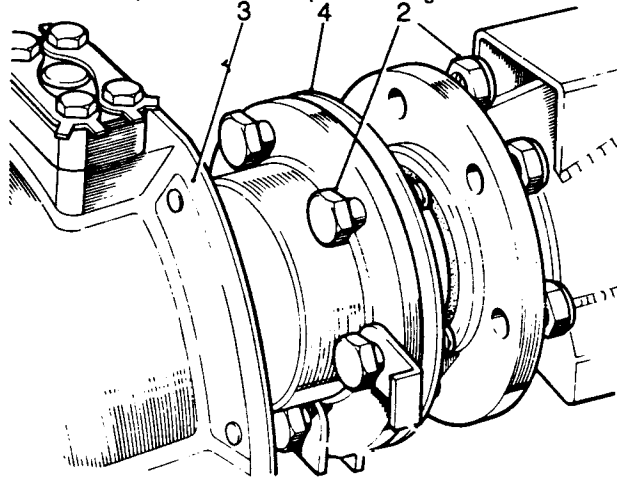

Fig J1.37
(1) Refer to Fig J1.37. Grease and replace the joint washer (4).
(2) Position the swivel pin housing (3) and secure with the fixings (2).
(3) If removed, refit the drag link at the ball joint.